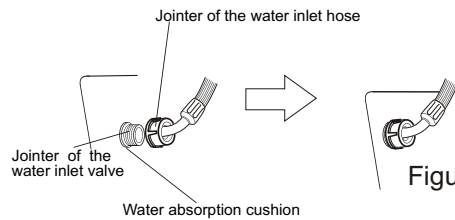

Figure 2
2. Connect the other ends to the water inlet valve . ( As figure 2)